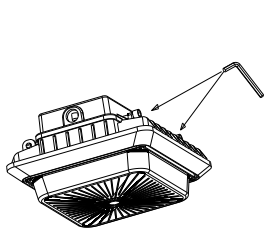

Figure 1-1
1. Disassemble the driver box cover by loosening the two screws on the driver box; Figure 1-1